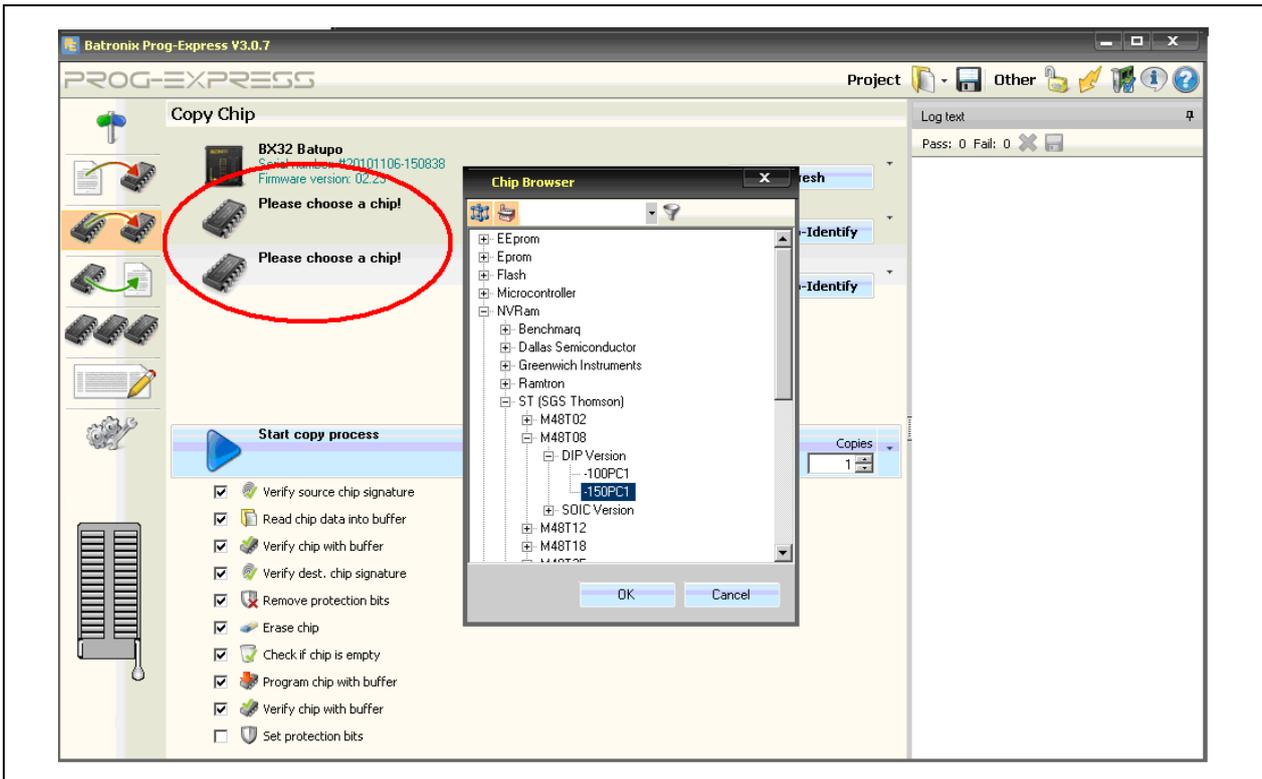

Figure 10: Chip browser with chip selection
- e) In the chip browser, select **NVRam**→**ST**→**M48T08**→**DIP Version**→**-150PCI** (see Figure 10)